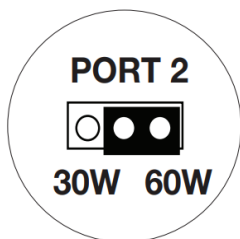

Fig. 2
2. Port Configurations (Fig. 2, pg. 4; Fig. 5a, pg. 9):